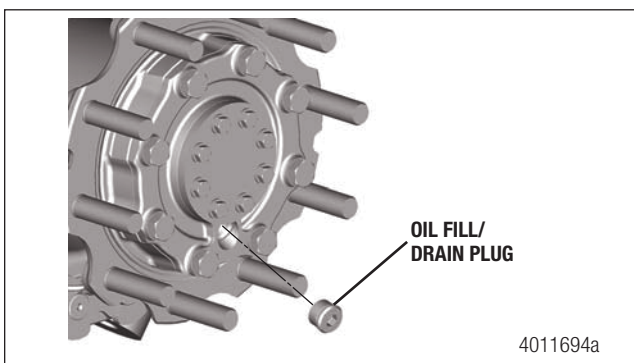

Figure 5.4
2. Rotate the hub so the oil fill/drain plug is at the 6 o'clock position. Remove the oil fill/drain plug and allow the oil to drain. Reinstall the plug. Figure 5.4.